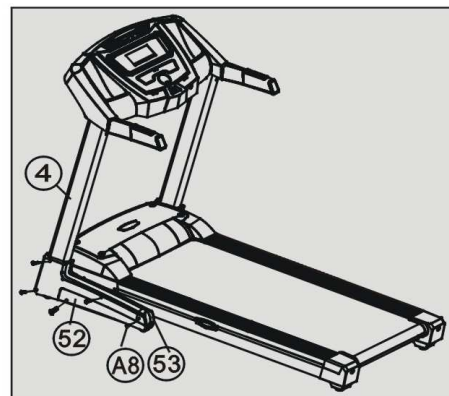

Figure 3
4. Install the left base foot cover (52, 53) to the support frame by attaching five Cross head self-lock bolts ST4*16 (A8). Same procedure to install the right base foot cover. (See figure 3)